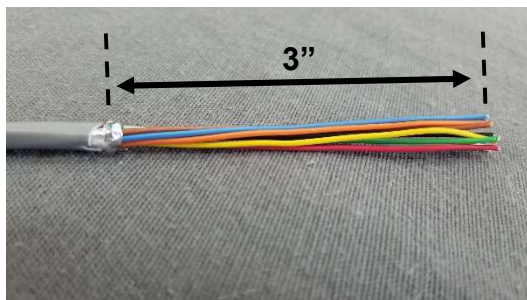

FIGURE 113
- ❑ **STEP 10.13** Trim about 3" off the outer jacket of the unused end of the shielded controller cable, as shown in **FIG. 113**. Also cut the shield, strain relief cord, and ground wire at the cut jacket, as shown in **FIG. 113**.